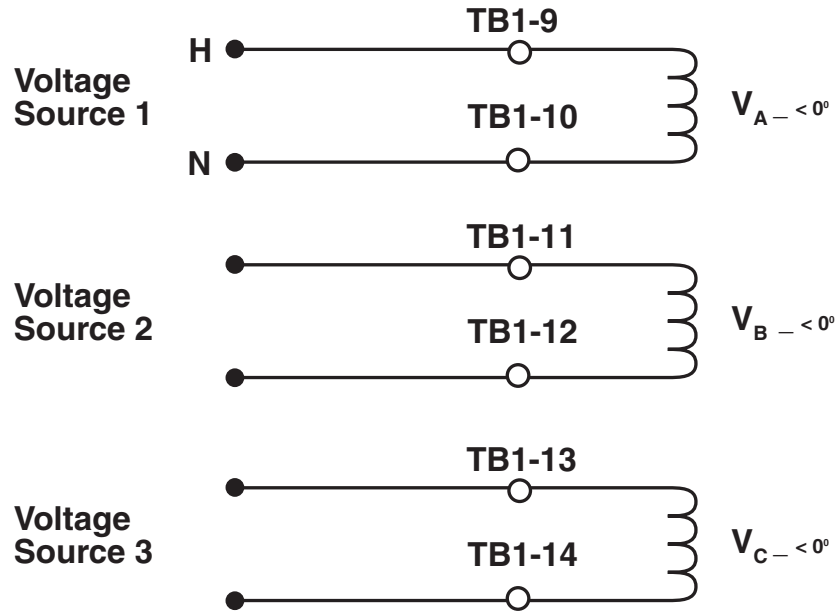

Figure 5-4 Voltage Configuration for Auto Calibration
- Configure voltage input sources as indicated in Figure 5-4.